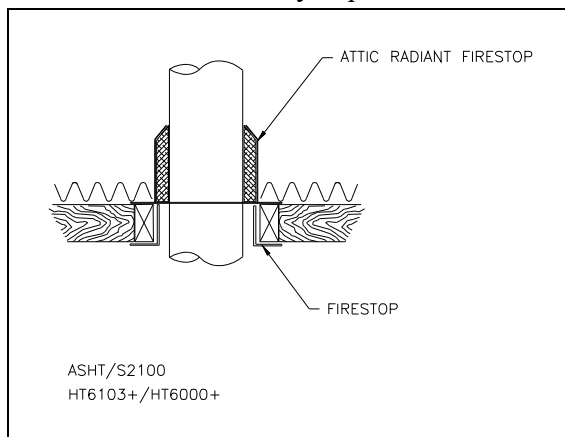
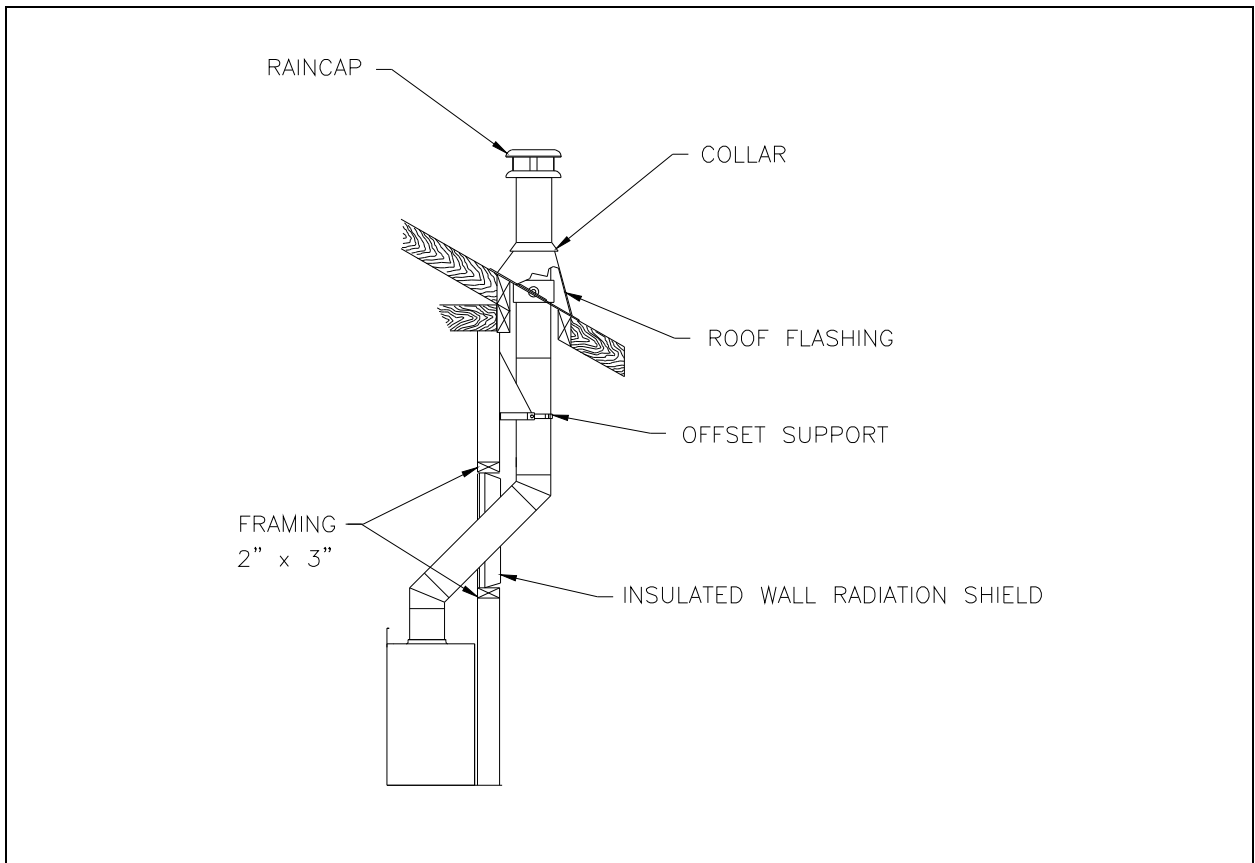

Figure 26
Figure 32
2. From below, install a firestop in each ceiling/floor separation through which the chimney will pass. At the attic level, install an attic radiation shield from above. (Figures 26 & 27).
1. Install the first elbow; turn it in the required direction. Fasten it to the chimney with the three (3) ½" (12 mm) metal screws provided with the elbow.
2. Install the necessary chimney lengths to achieve the required offset. Lock the chimney lengths together: it is recommended to use three (3) ½" (12 mm) screws. If the offset length is made of two (2) chimney lengths or more, use an offset support halfway up the offset. If penetrating a wall, install a wall radiation shield (see figures 32 & 33).
3. Use another elbow to turn the chimney vertically. Secure the elbow, using three (3) ½" (12 mm) screws (provided with the elbow).
5. From below, install a firestop (See figure 26).